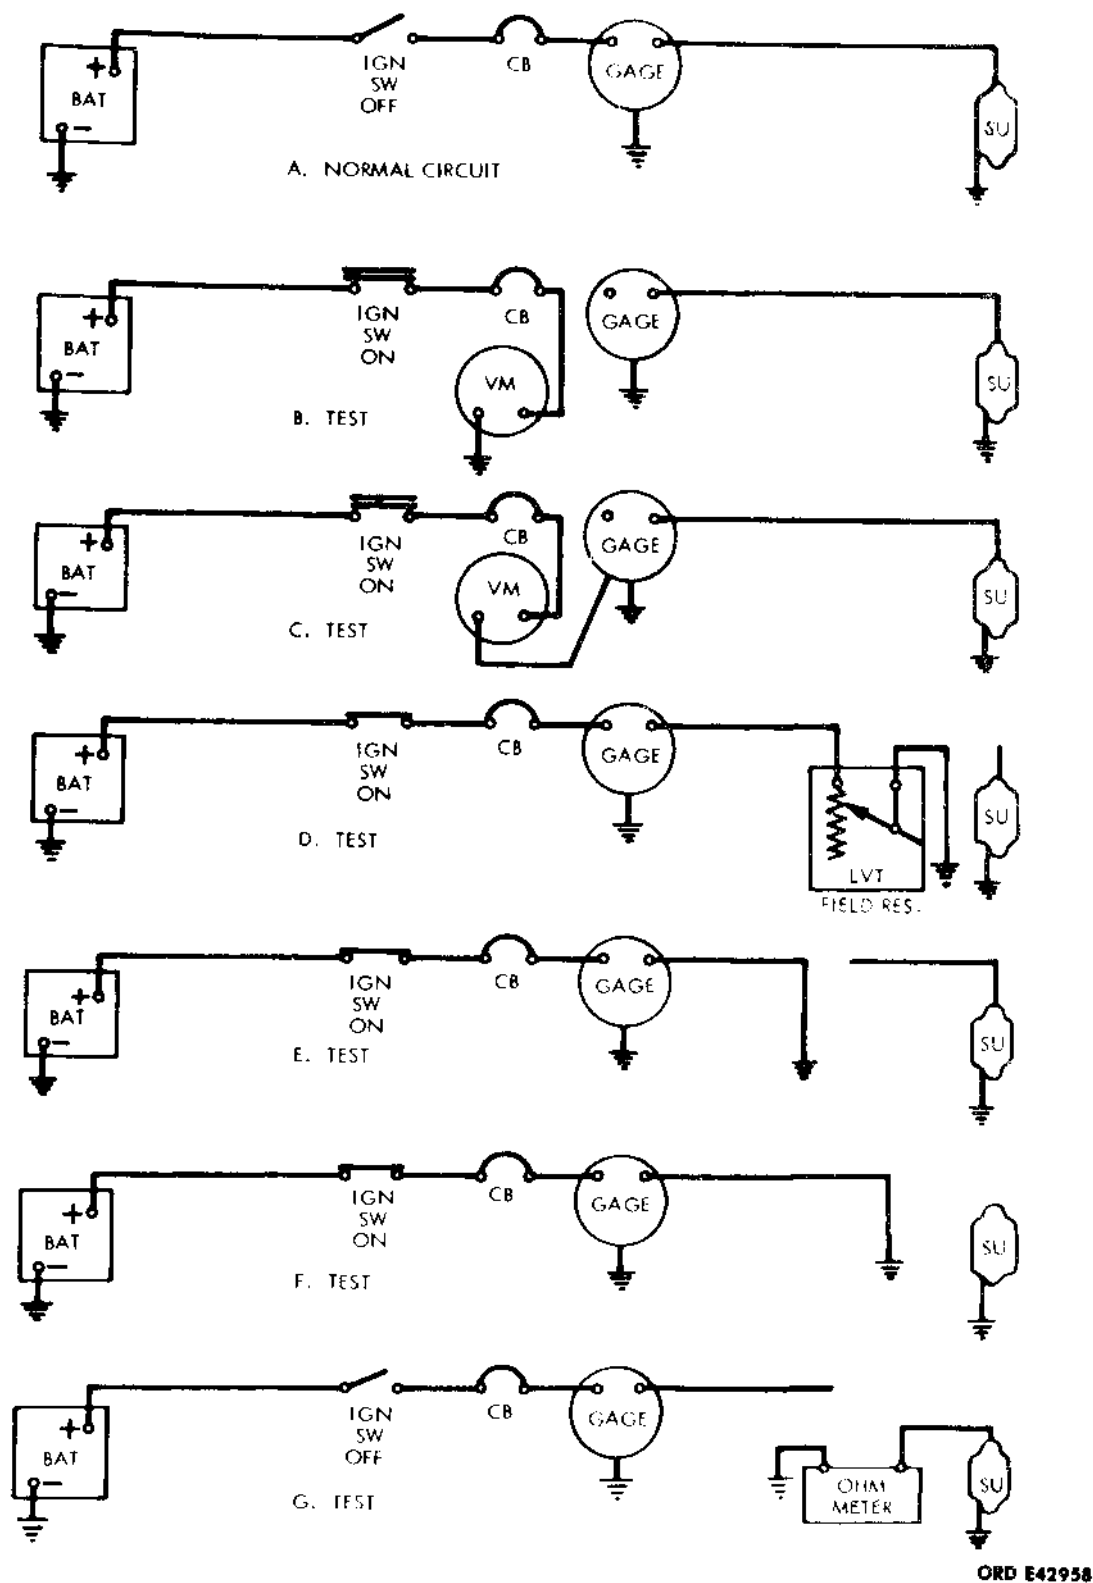

Figure 2-34. Electrical testing diagram.
e. With the ignition switch turned to ON (fig. 2-34), the voltmeter should indicate battery voltage.
f. Remove voltmeter's negative (-) lead from vehicle ground and contact case of gage (fig. 2-34). Voltmeter should indicate battery voltage.
k. Connect one lead of field rheostat to jumper wire from gage, and the other field rheostat wire to vehicle ground (fig. 2-34).
n. To check temperature gage, ground one end of jumper wire from gage to vehicle ground. The temperature gage should read high temperature when grounded, and zero temperature when jumper is not grounded (fig. 2-34).
q. Disconnect wire from sending unit to gage at the sending unit (fig. 2-34).
c. Connect positive (+) lead of ohmmeter to the sending unit and negative (-) lead of ohmmeter to vehicle ground (fig. 2-34).